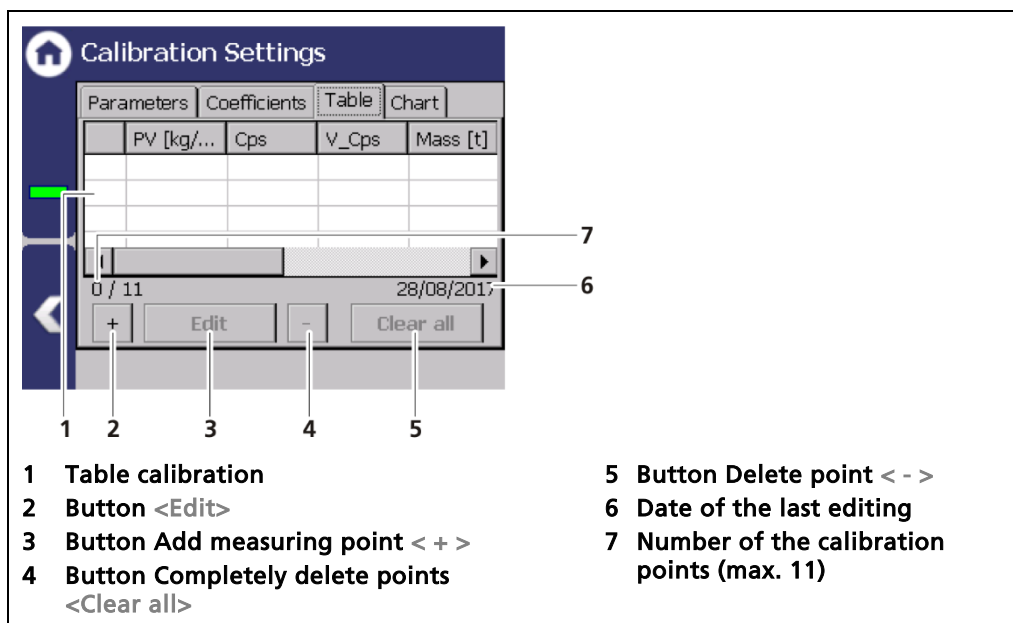

Fig. 90 Calibration settings (Table)
1. Click on the button <+> (Fig. 90, item 2).
- The window "read-in value | Measured value" (Fig. 90) opens.